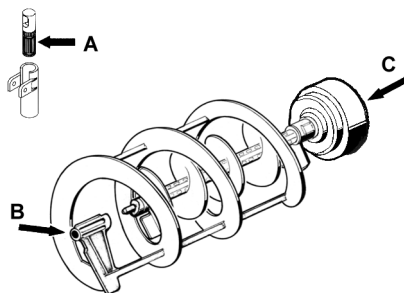

figure 11
- Lubricate faucet piston, inside auger and outer spiral (see points A, B and C of figure 11) only with the grease supplied by the manufacturer or other food grade approved lubricant.